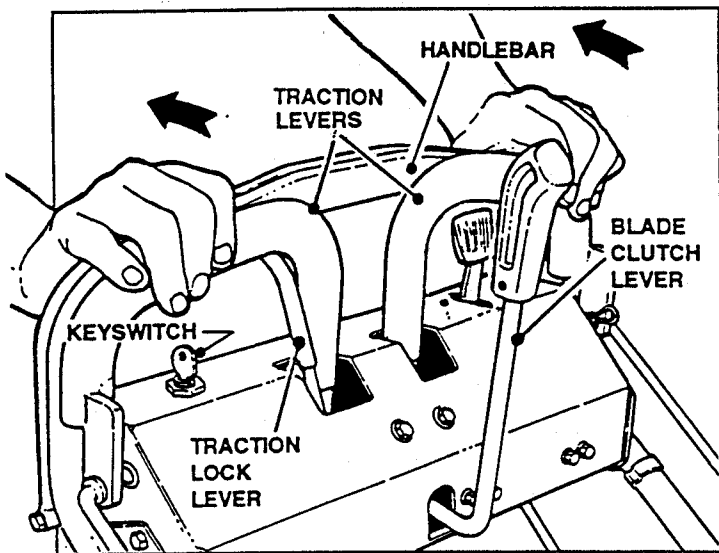

FIGURE 2
1. Squeeze both Traction Levers firmly against the Handlebar to stop forward or reverse motion. Using your right hand thumb, push the Traction Lock Lever in Park Brake position. See Figure 2.
2. Pull Blade Clutch Lever backward (toward handlebar) to the OFF position. See Figure 2.
4. **STOP ENGINE** by turning Keyswitch to OFF. See Figure 2.
1. Pull both TRACTION LEVERS toward the Handlebar to stop forward or reverse motion, while pushing the Traction Lock Lever forward until it locks both Traction Levers in Park Brake position. See Figure 2.
2. Pull the Blade Clutch Lever backward to the OFF position. See Figure 2.
- 2a. Pull both Traction Levers toward the Handlebar while pushing Traction Lock Levers forward until it **locks** both Traction Levers in Park Brake position. See Figure 2.